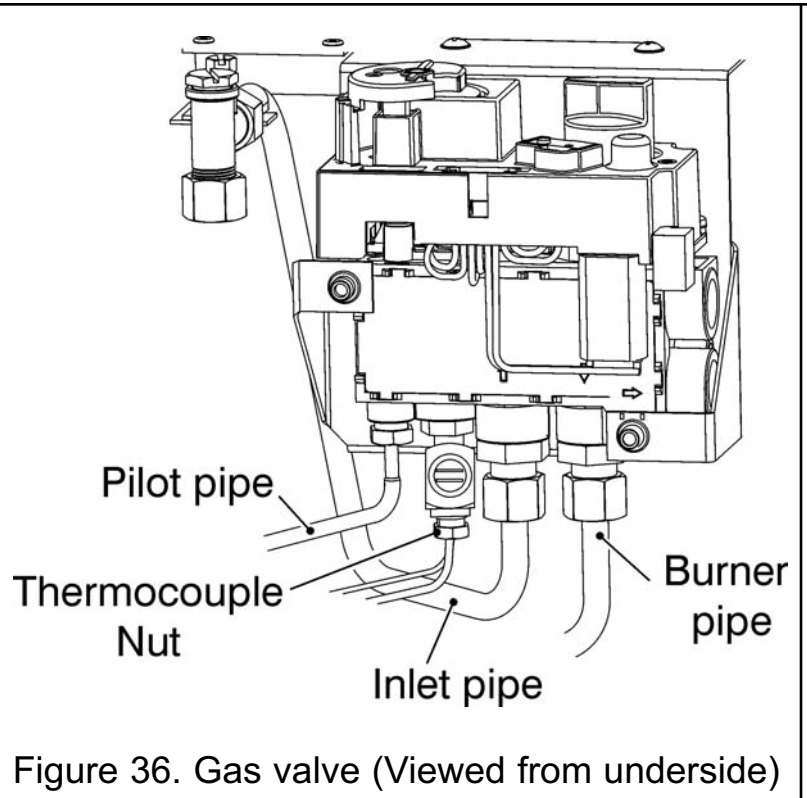

Figure 36. Gas valve (Viewed from underside)
4. Detach the thermocouple by unscrewing the thermocouple nut at the interrupter block (See figure 36).
(See figure 36).